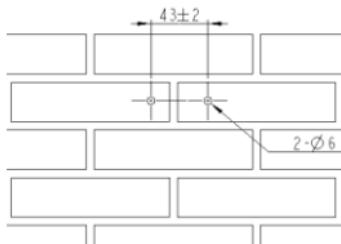

Fig 2-13 Drill the wall mounting holes
- 1) Drill two  $\phi 6$  holes with 43mm space distance. Fig 2-13 as below: